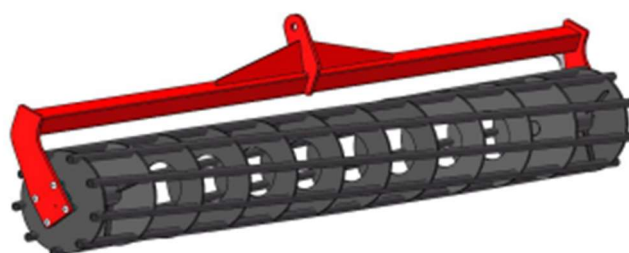

Figure 3.5
4. Pressing wheel assembly (Figure 3.5)